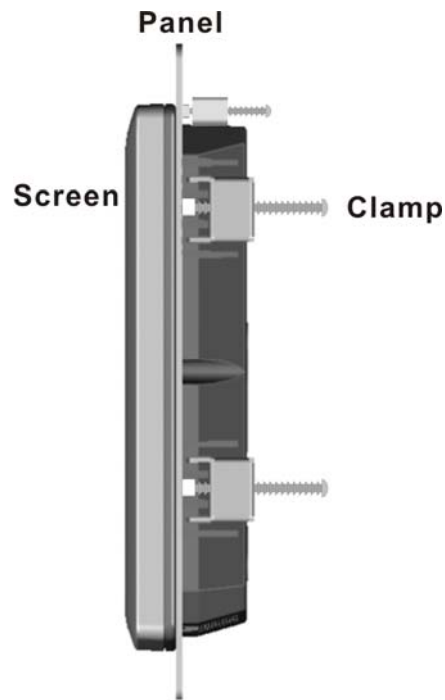

Figure 2-14: Tighten the Panel Mounting Clamp Screws
- Step 5:** Tighten the screws that pass through the panel mounting clamps until the plastic caps at the front of all the screws are firmly secured to the panel (**Figure 2-14**).